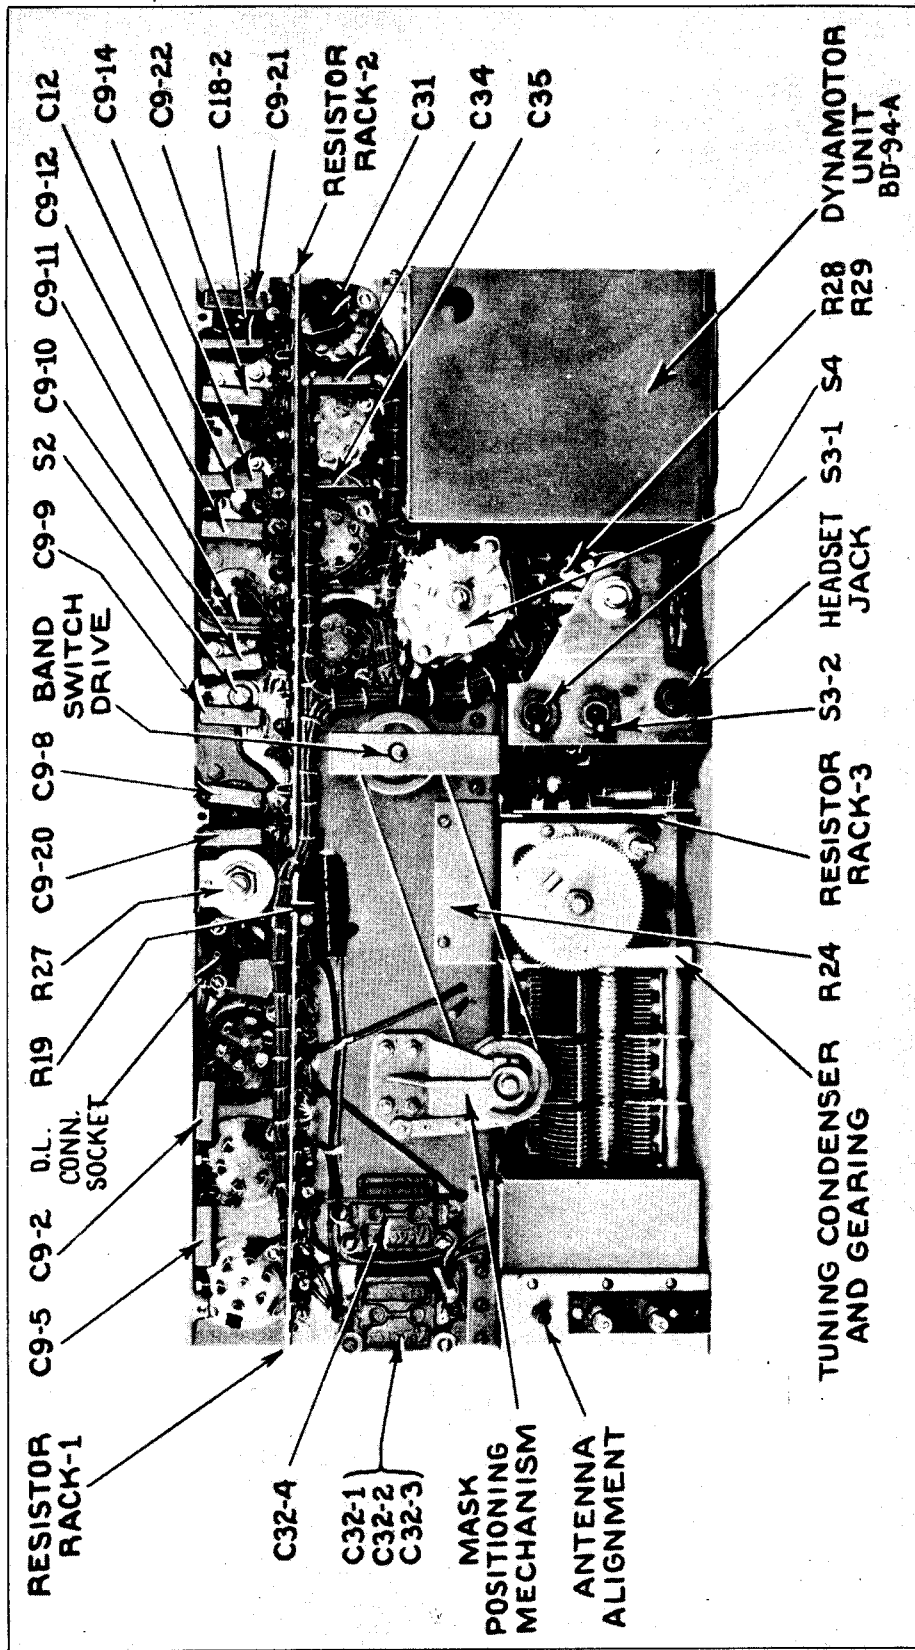

Fig. 4 - Front View of Chassis with Panel Removed
2-4 Fig. 4 shows the front view of the chassis with panel removed. The location of the following parts is shown:
b. A mask, with suitably located and marked windows, is mounted before the dial. The mask is controlled by the band change switch and is connected thereto by means of pulleys and cables. The positioning mechanism for centering of the mask is shown in Figures 4, 16 and 17.